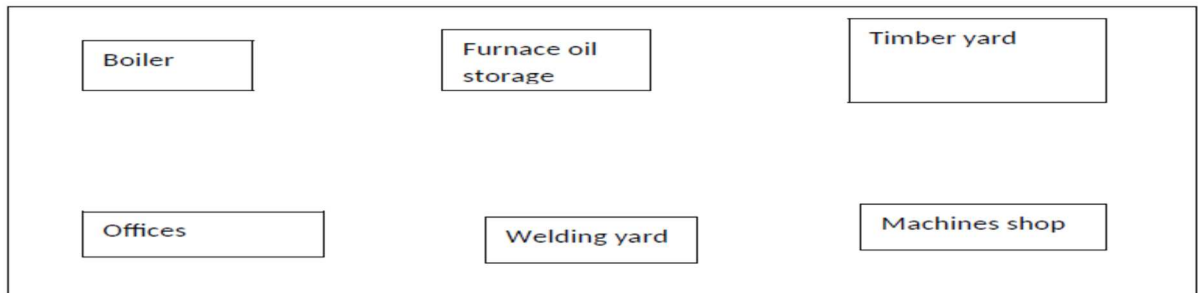

Figure 2 :Plant Layout of Jua Kali Industry
- b) The plant layout of Jua Kali industry is as shown Figure 2 below. Of late management are incurring high insurances premier due to rampant fire outbreak. A Mechanical Engineer has been contracted to carry out an audit and give recommendation of the types of fires extinguishers required and how to locate them in the plant